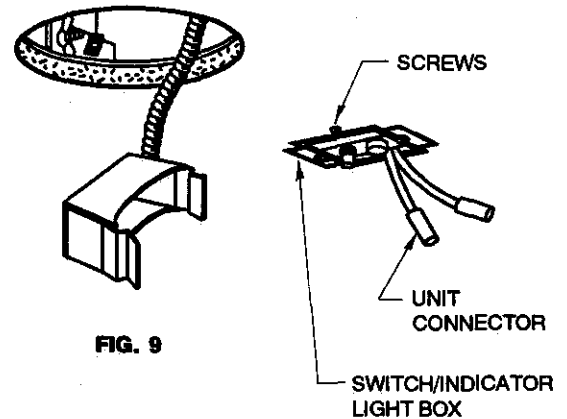

FIG. 9
2. Cut hole in ceiling for SWITCH/INDICATOR LIGHT BOX in a convenient location to the side or end of frame (Fig. 9). The recommended hole size is 2 $\frac{1}{2}$ " $\times$ 3 $\frac{3}{4}$ ".
4. Pull down SWITCH/INDICATOR LIGHT BOX (Fig. 9) and clamp on to ceiling by tightening SCREWS on side of box (Fig. 9).
5. Connect UNIT CONNECTOR in SWITCH BOX (Fig. 9).